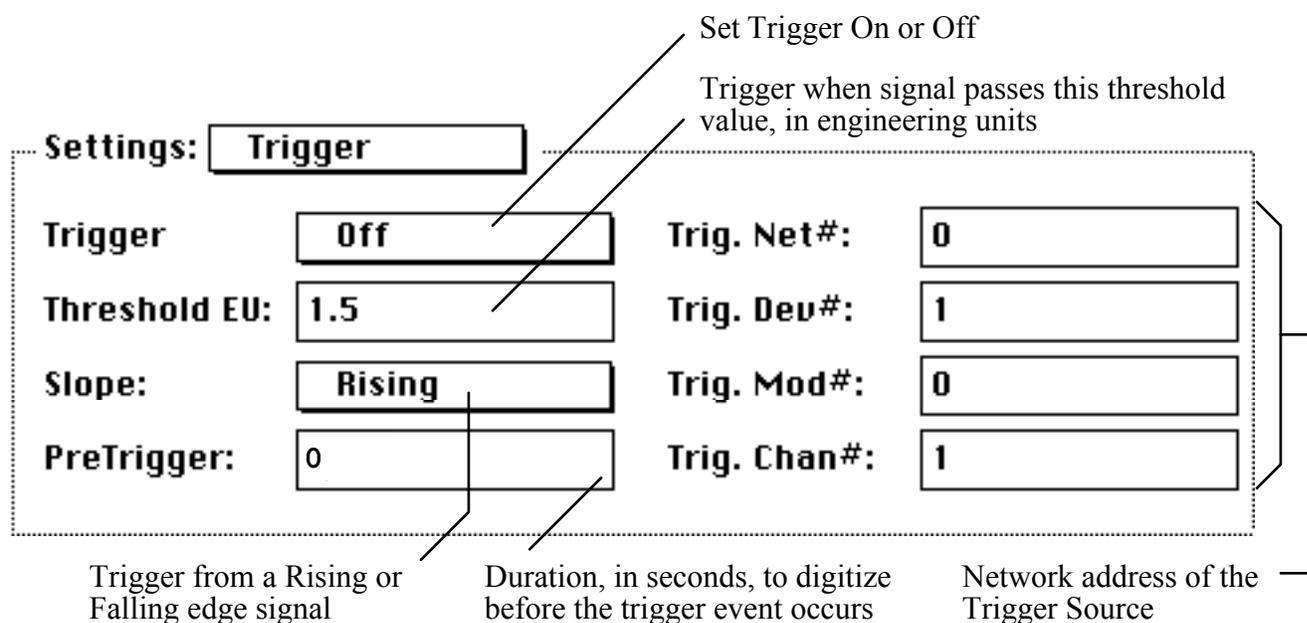

Figure 5.10 Trigger options
- Trigger Options** The Trigger dialog is accessed by pressing the Trigger button within the Setup dialog. This dialog is used to specify when digitizing begins after the Start button is pressed, as illustrated in Figure 5.10.